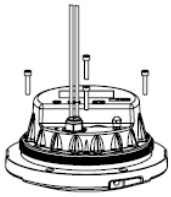

Figure 5-12
- Place the lighting fixture top downwards and dismount 4 M5×25 hexagon socket cap screws (Figure 5-12).